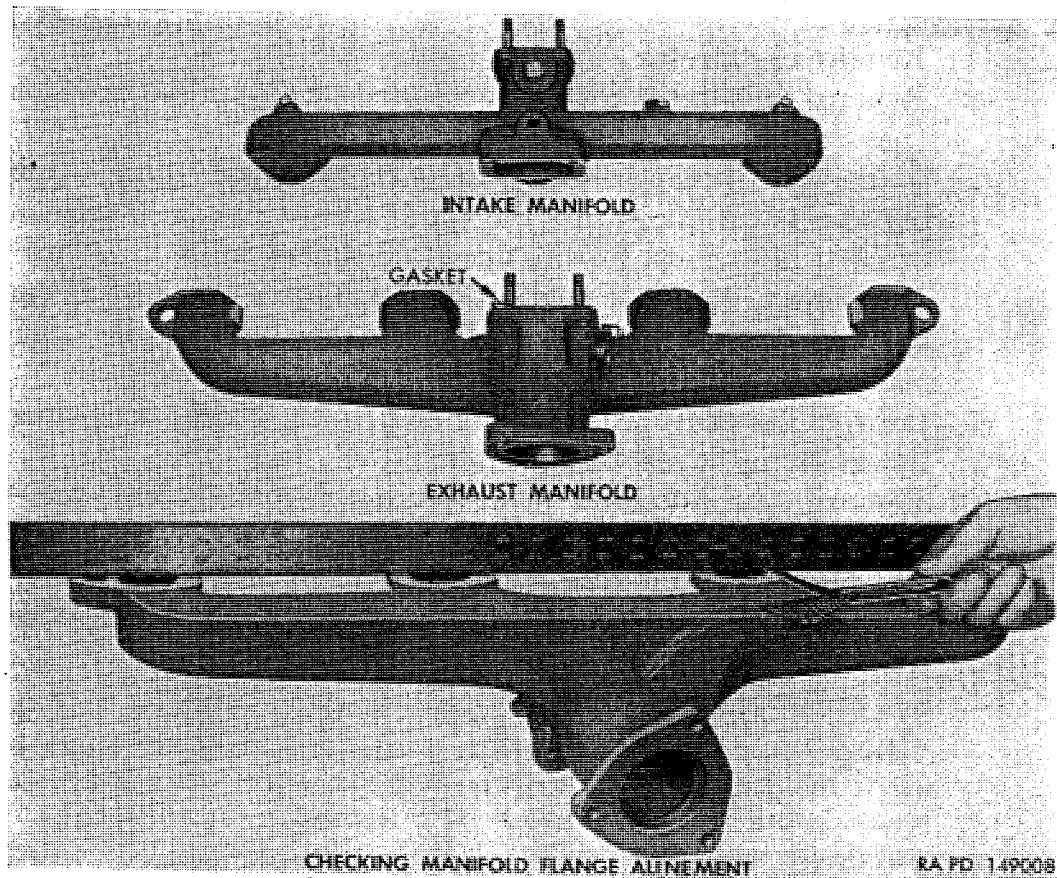

Figure 96. Inspecting manifolds.
- (1) Inspect manifolds for evidence of cracks, and use straight-edge to check alinement of exhaust manifold flanges (fig. 96). Flanges should be in line within one thirty-second of an inch. Clean gasket surfaces and pilot counterbores at cylinder head and manifolds. Inspect heat control valve in exhaust manifold. If valve assembly is burned or otherwise damaged, or if flanges are not in alinement, obtain new or repaired exhaust manifold assembly including heat control valve and shaft.
- (2) Inspect exhaust manifold for elongation as indicated by excessive length from centerline to centerline of end stud holes. Correct dimension is $26\frac{7}{8}$ inches. If this dimension is incorrect, set exhaust manifold on studs in cylinder head and note clearance at studs. If necessary, file manifold to eliminate any interference between manifold and studs.